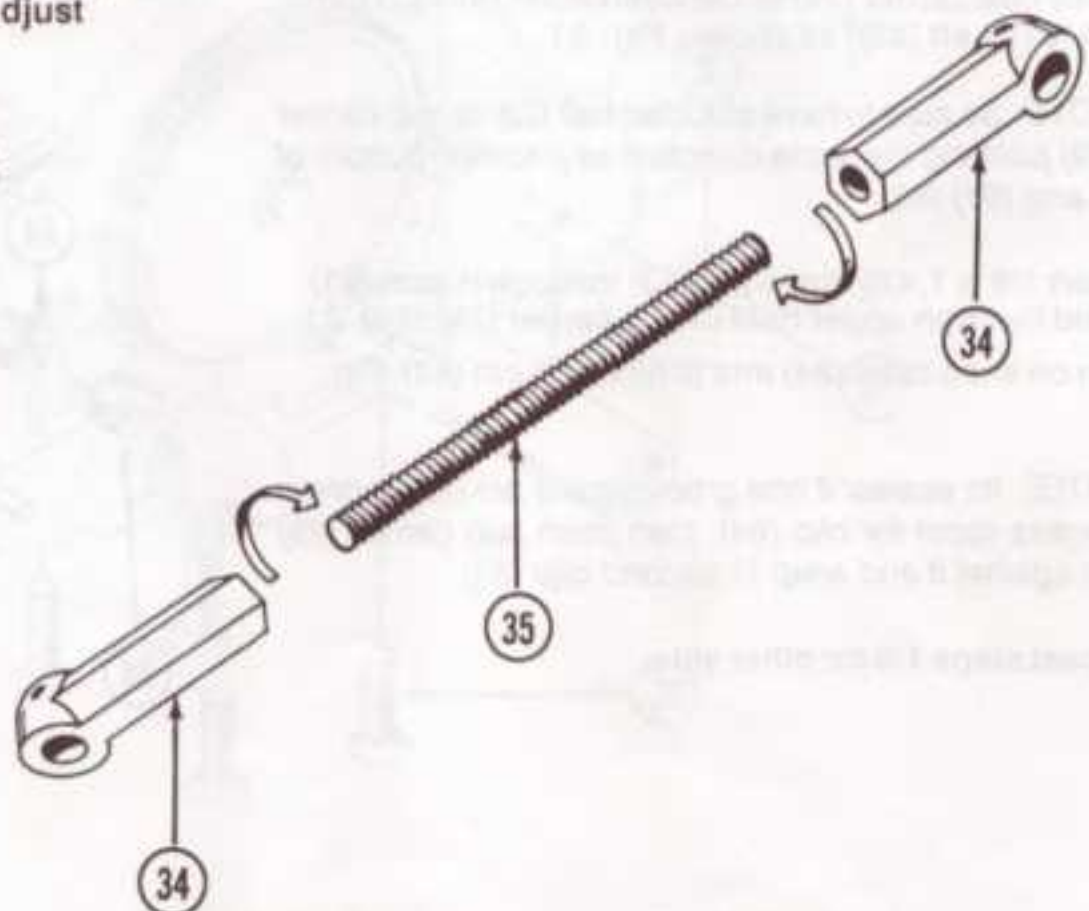

FIG. 33
10. Thread an adjustable rod end (34) onto each end of a 1 1/2" threaded rod (35). Use the set up tool to adjust the lengths. Fig. 33. Set aside until step 17. These are rear camber rods